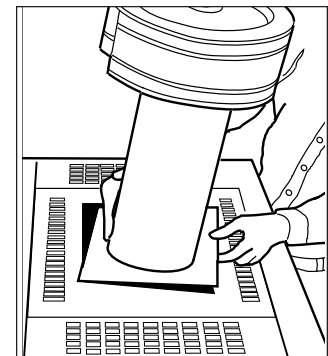
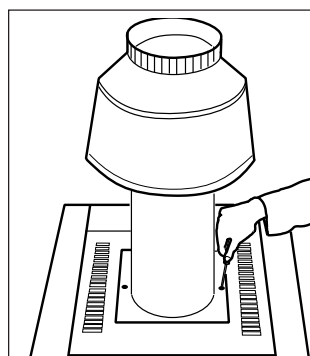

Figure 5. Vent cap with adapter plate (outdoor).
Figure 6. Draft hood with adapter plate (indoor).
- e. Slide the adapter plate over the bottom of the stack extension as shown in Figure 5. Fit the stack extension down over the flue transition ring. Seat the adapter plate on the top assembly and secure it with two screws (see Figure 6).